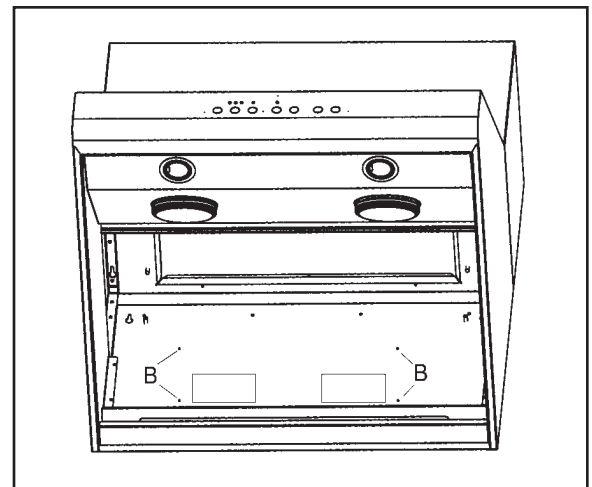

Figure 12c PHE & PH_Z
2. Figure 12c shows the weld studs in location B for horizontal (rear) discharge. Attach four #10-24 nuts to the weld studs. For vertical discharge, attach nuts to studs at the top of the mounting plate.